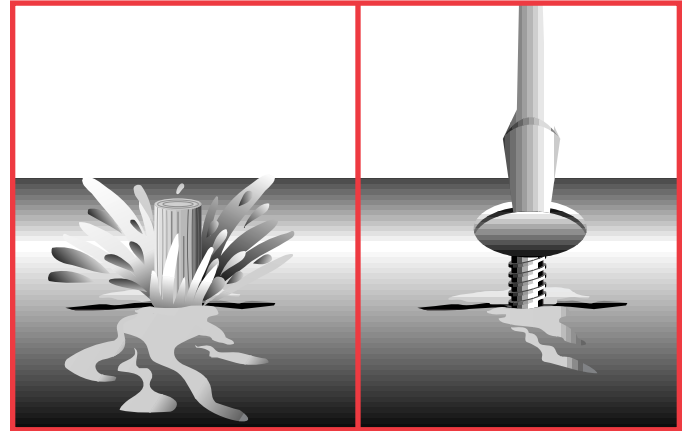

Figure 3. Stop leaks with a wooden plug or screw inserted in area of seepage.
- Stuffing with cork, wax, rags, or any other suitable material. (See figure 3)